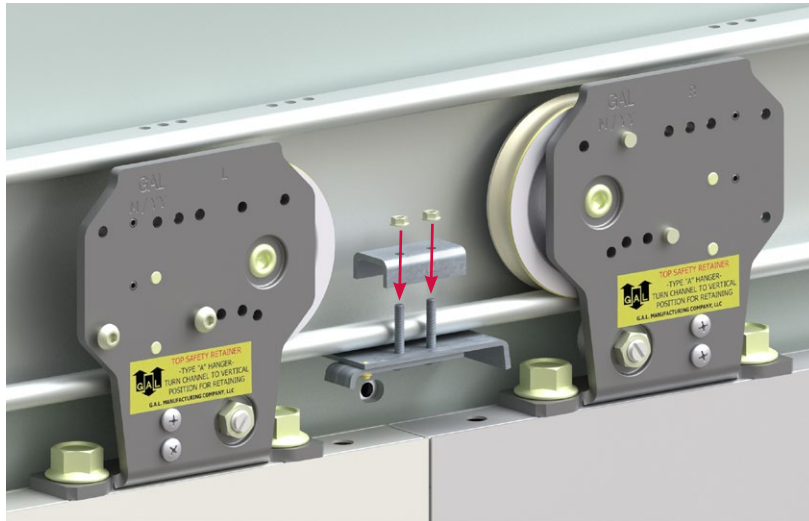

Figure 15: Center-stop Top Piece
4. Attach the top piece and thread on the nuts as shown in **Figure 15**. Leave the nuts loose so the center-stop can still be positioned on the track.